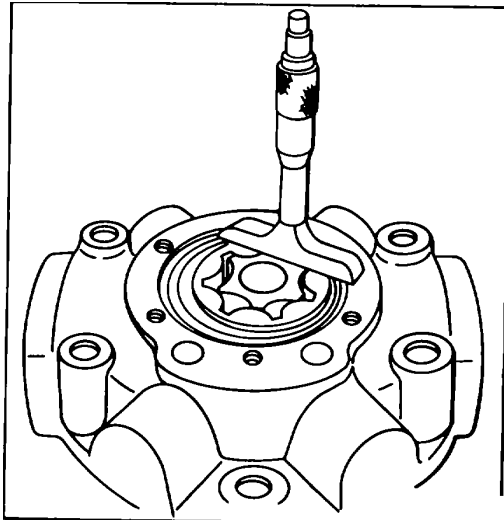

Figure 157.
Use a depth gauge to confirm .001-.0035 clearance between the top of the charge pump spacer (48) and the top of the charge pump gears (47). See Fig.157.